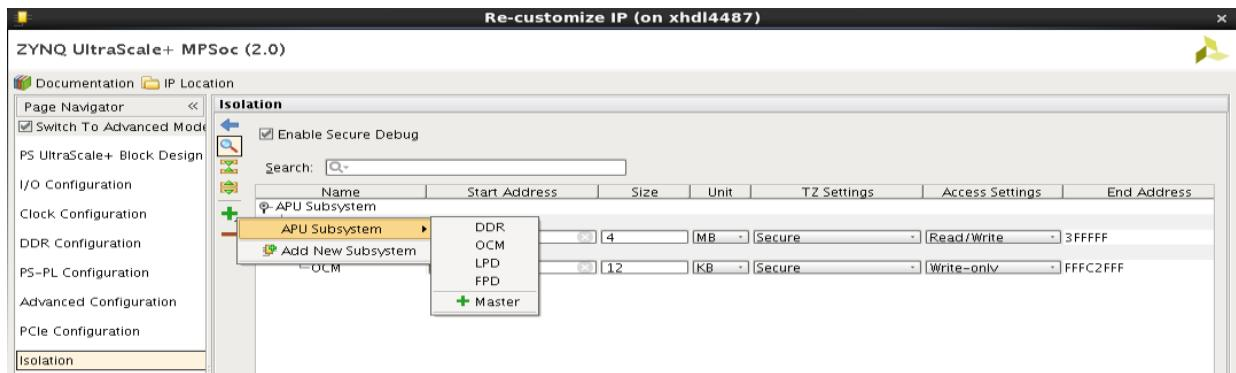

Figure 4-16: Selecting APU Subsystem and OCM
6. Click the + button and then select **APU Subsystem** and **OCM** as shown in Figure 4-16.